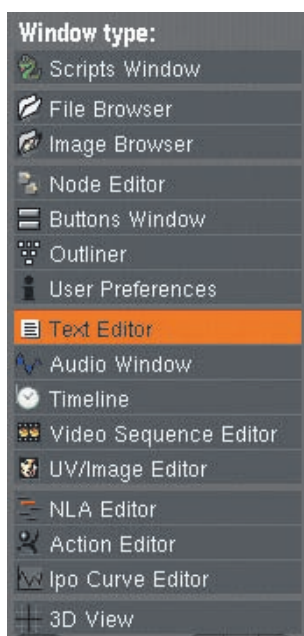
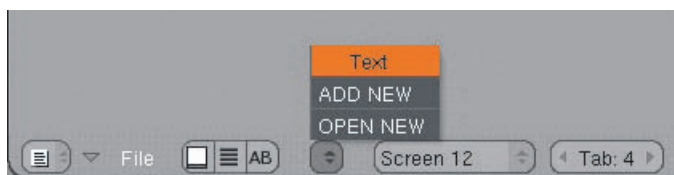

Figure 6.23
Figure 6.24 Select Text from the header drop-down menu.
1. Open a Text Editor window by creating a new work area and selecting the Window Type menu item, as shown in Figure 6.23. From the header menu of the Text Editor window, select Text (see Figure 6.24). This is the name of the default text file in the editor.